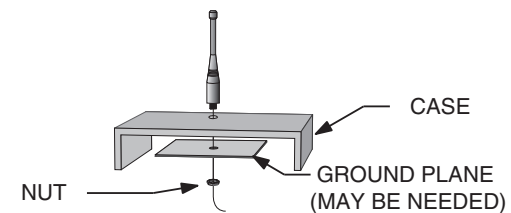

Figure 60: Remote Ground Plane
6. In some applications, it is advantageous to place the module and antenna away from the main equipment (Figure 60). This can avoid interference problems and allows the antenna to be oriented for optimum performance. Always use 50Ω coax, like RG-174, for the remote feed.